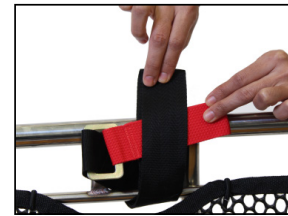

Figure 8, Threading Buckle
3. Thread the buckle through the restraint loop (Fig. 8) and pull until the loop is tight around the Rescue Litter rail.